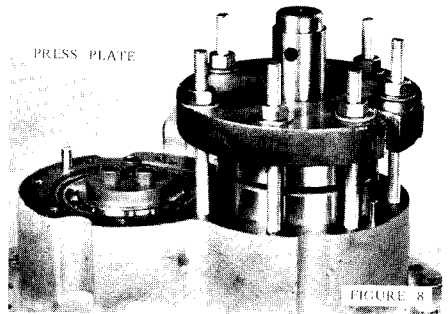

FIGURE 8
8. For ease of bearing assembly, lightly coat the bearing bore and shaft extension with "Moly" type grease. Using the adaptor plate (Sketch A) assembled as shown in Figure 8, press the discharge end angular contact bearings in place. Assemble the adaptor plate with the pilot side down so the bearing can be pressed to the bottom of the bore. ASSEMBLE BEARINGS IN END PLATE IN POSITION SHOWN IN FIGURE 8A. Faces marked "SUPPORT" go together. This gives a fixed bearing, holding the rotors in a fixed position.